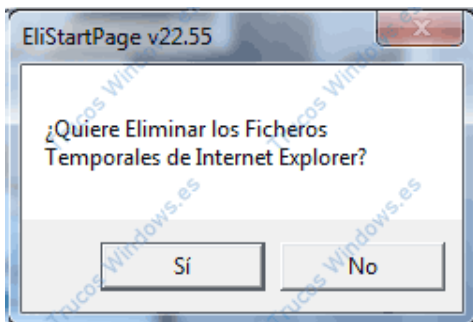

FIGURA 10
7. POR ÚLTIMO NOS PREGUNTA SI QUEREMOS ELIMINAR LOS FICHEROS TEMPORALES DE INTERNET EXPLORER, DE NUEVO "Sí" (FIGURA 10).